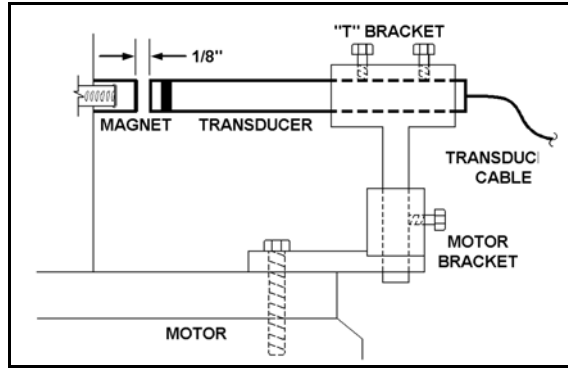

Figure 6-6. Motor Transducer Assembly
5. Assemble and adjust the T-bracket linkage so that the magnet passes approximately 1/8 inch from the transducer. See Figure 6-6.